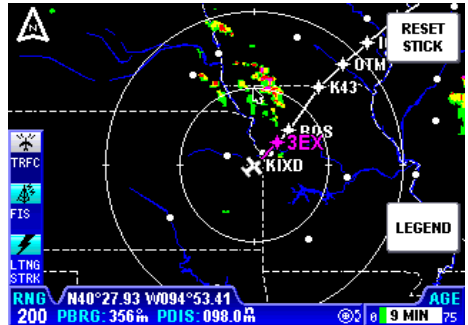

Figure 2-27
3. To view a specific area of weather, move the joystick in the desired direction. A pointer will appear on the display (see Figure 2-27). The distance and bearing between present position and the pointer is shown at the bottom of the display. As the joystick is held the pointer will continue to move. When the pointer reaches the edge of the display the map will pan to keep up with pointer movement. Release the joystick to stop moving the pointer. Press the **RNG▲/RNG▼** keys to zoom in or out on the pointer position.